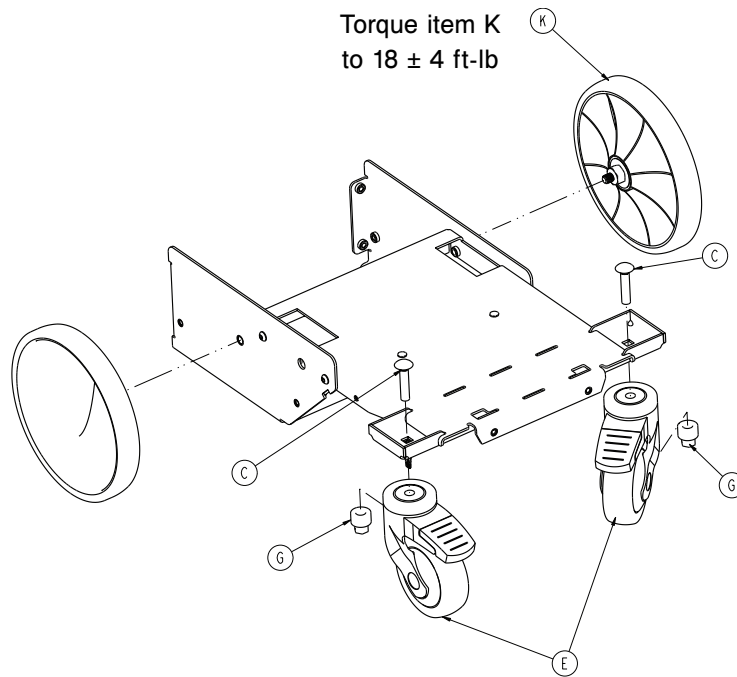

Figure 14 – Rear swivel lock casters
3. Using a 9/16" combination wrench, loosen and remove the nut that secures the rear swivel lock caster to the frame. Remove and discard the rear swivel lock caster (Figure 14).